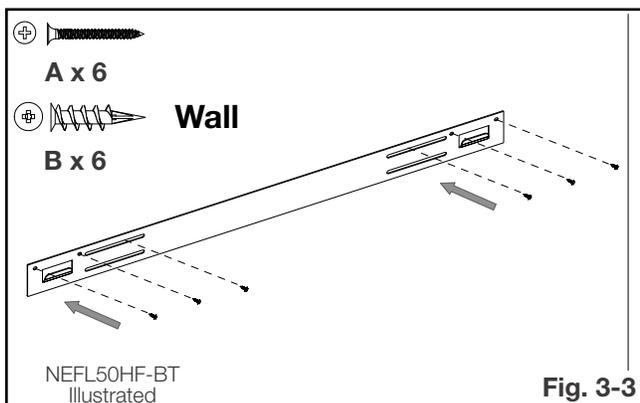

Fig. 3-3
- F. Mark out the location, then mount the wall mounting bracket onto the wall using screws (supplied) (**Fig. 3-3**). This bracket **MUST** have the hooks facing upwards and be level.